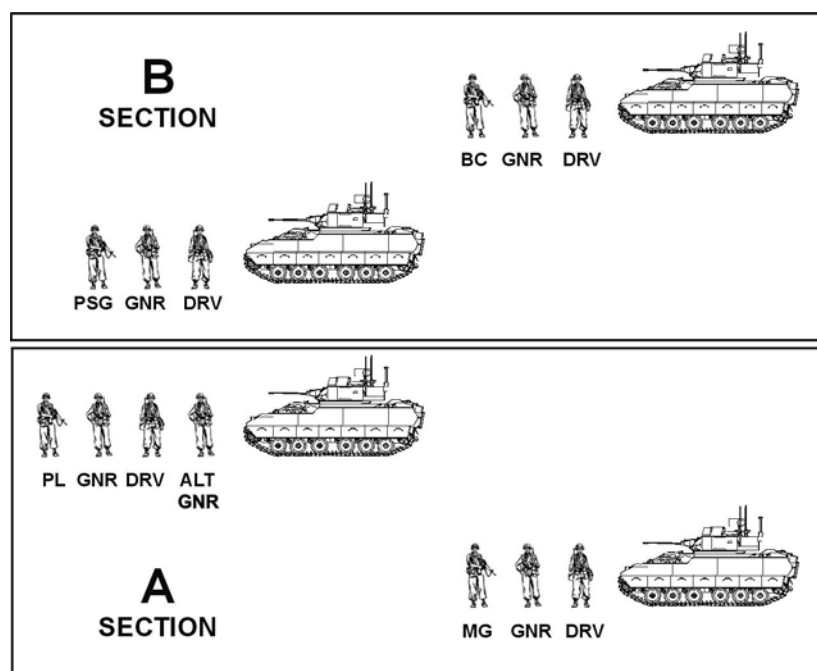

Figure A-1. Mounted element.
a. The mounted element (Figure A-1) is equipped with four BFVs organized as two, two-vehicle sections. When the squads and the platoon leader dismount, the platoon sergeant controls the two mounted sections. The “A” section leader is the platoon leader’s wingman and platoon master gunner. The “B” section leader is the platoon sergeant’s wingman. When the platoon leader dismounts, the platoon leader’s gunner becomes the BC, and an alternate gunner assumes the duties of gunner.